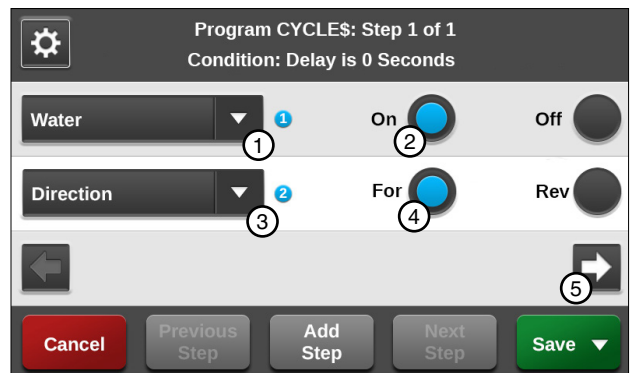

Figure 157-3 1. Water Command 4. Forward
5. Enter the commands to be executed. Refer to Figure 157-3.